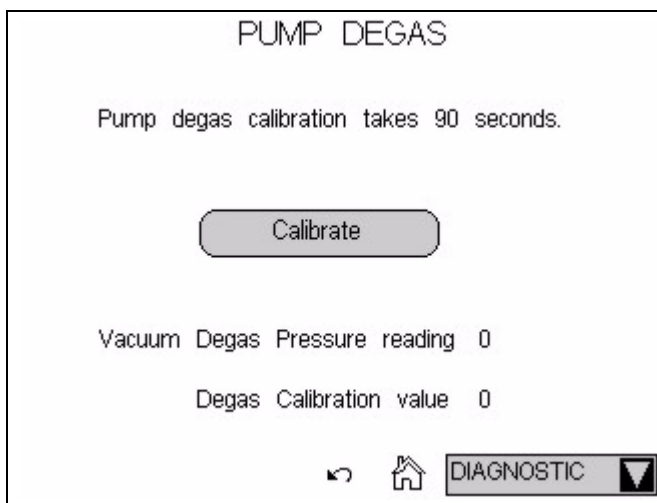

Figure 5-6. Pump Degas Page
1. Open the ICS-2100 Wellness Panel in Chromeleon (see Section 5.1.1), or open the ICS-2100 touch screen **PUMP DEGAS** page (see Figure 5-6).